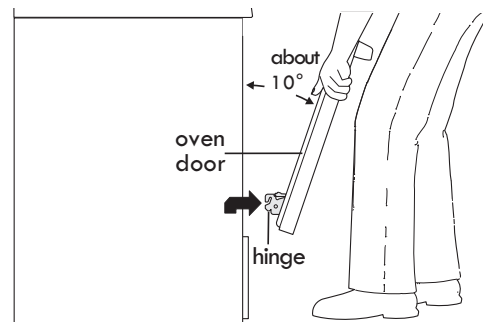
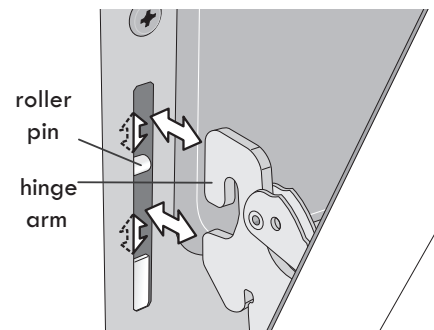

Figure 31: Holding door for removal
Figure 32: Location of hinge arm and roller pin
3. Firmly grasp both sides of oven door along the door sides. Do not use the oven door handle (See Figure 31).
4. Close the door to 10 degrees from the door frame (Figure 31).
5. Lift the oven door hinge arms over the roller pins located on each side of the oven frame (See Figure 31).
1. Firmly grasp both sides of oven door along the door sides. Do not use the oven door handle (See Figure 31).
2. Holding the oven door at the same angle as the removal position (See Figure 31), seat the hook of the hinge arm over the roller pins located on each side of the oven door frame (See Figure 32). The hook of the hinge arms must be fully seated onto the roller pins.